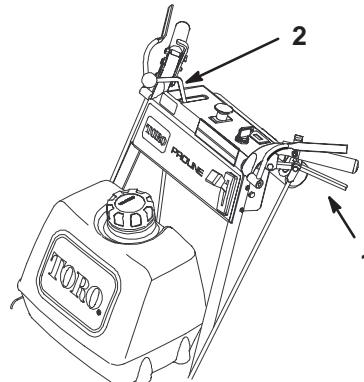

Figure 16
4. Slowly release the drive levers to move forward (Fig. 16).
To go straight, release drive levers equally (Fig. 16).
To turn, squeeze the drive lever on the side and direction you want to turn (Fig. 16).
2. Slowly squeeze the drive levers back to the grips together to move rearward (Fig. 16).